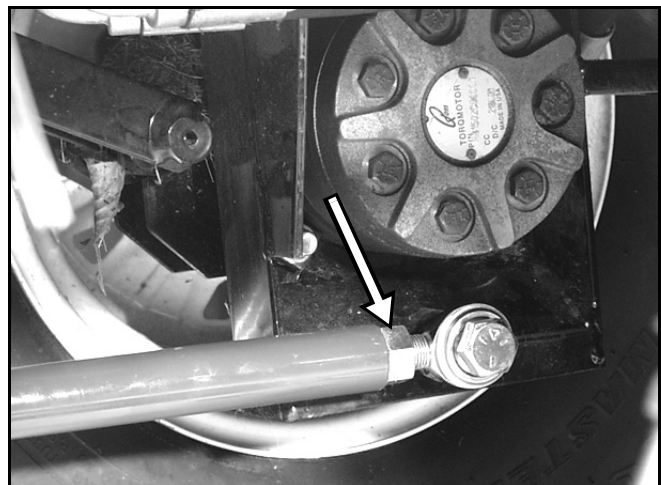

Figure 116
9. If the fixed idler contacts the end of the adjustment slot and more belt tension is required, a small change to lengthen the push arms can be made (Figure 116).